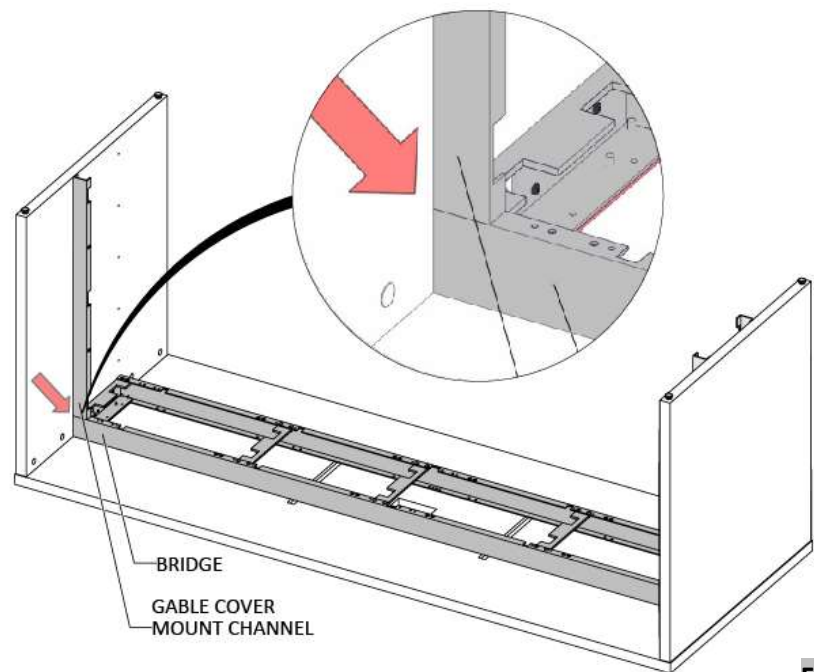

Figure 9
- 24. Align and flush the gable cover mount channel to the side face of the bridge before tightening the screws, (Figure 9).